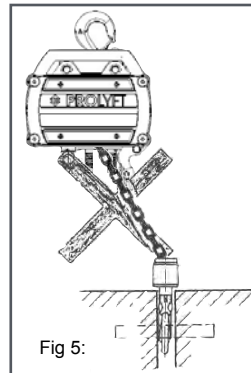

Fig 5:
- **Do not** allow any lateral load on either housing or bottom block (Fig. 5).